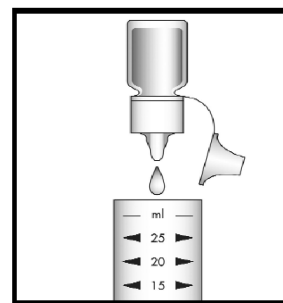

Figure 2
3. Add 2 drops of A-1401 Catalyst Solution (fig 2). Stir briefly with the tip of the ezSample Snap Vial (ampoule).
4. Add 2 drops of A-1400 Activator Solution (fig 2). Stir briefly with the tip of the ampoule.